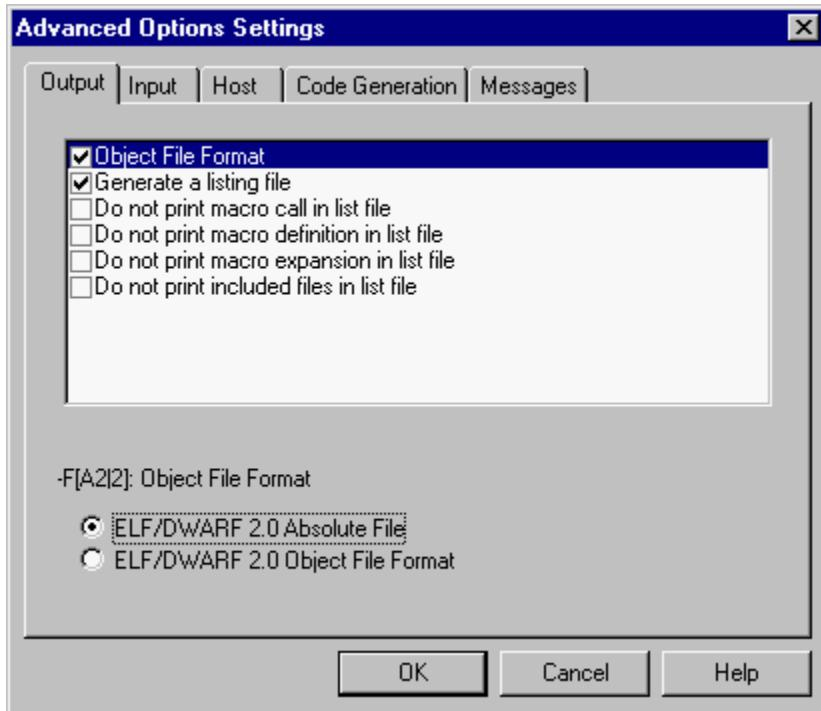

Figure 11-3. Selecting the Object File Format
3. In the **Output** folder, select the check box in front of the label **Object File Format**. More information is displayed at the bottom of the dialog, as shown in Figure 11-3.